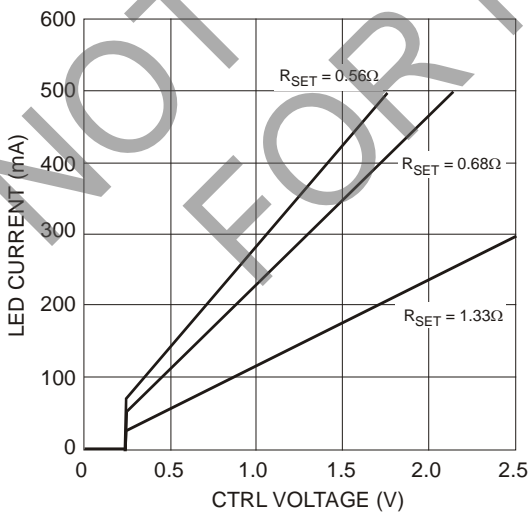

Figure. 6 LED Current vs. V_{CTRL}
- Refer to Figure 6 for the device derating curve.